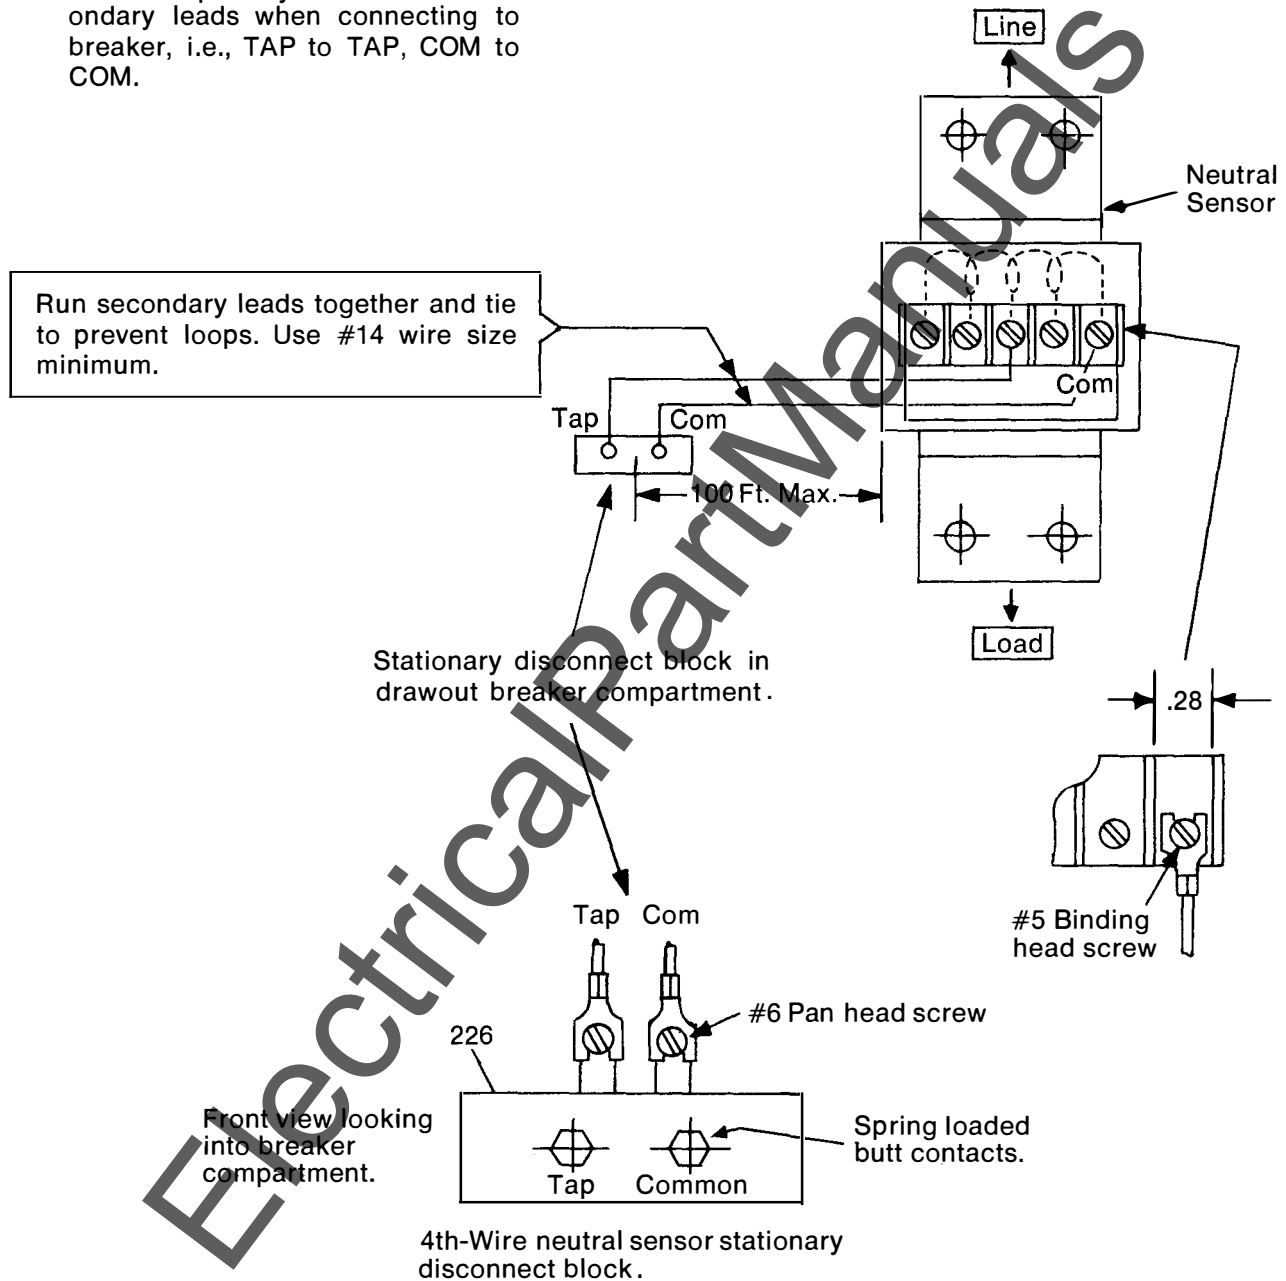

Fig. 25 — Connecting the 4th-wire neutral sensor.
3. Connect the neutral sensor to disconnect block 226 per Fig. 25 wiring instructions.